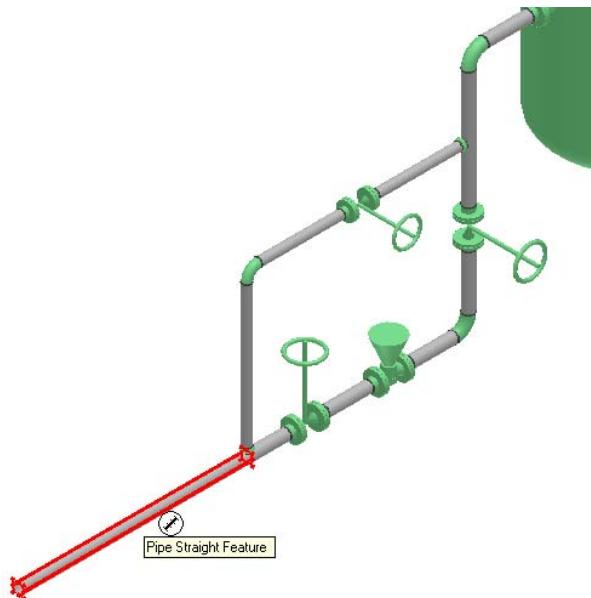

Figure 44: Pipe Straight Feature
28. Click on the active placement point of the pipe, as shown in Figure 44.